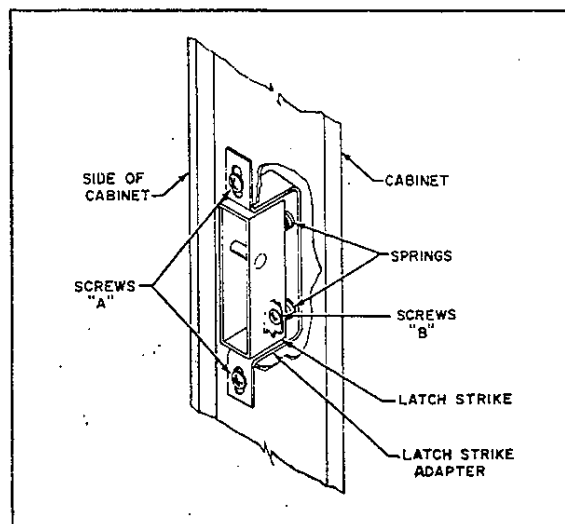

Figure 2-4. Latch Strike Assembly
2.7 MAIN DOOR ADJUSTMENTS. (See Figure 2-4.)